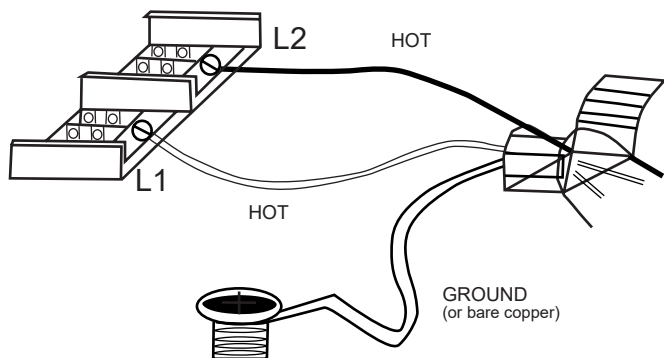

Figure 7
3. Pull enough wire into the heater and connect the wire to the Power Block located in the electrical area of the heater, See Figure 7.